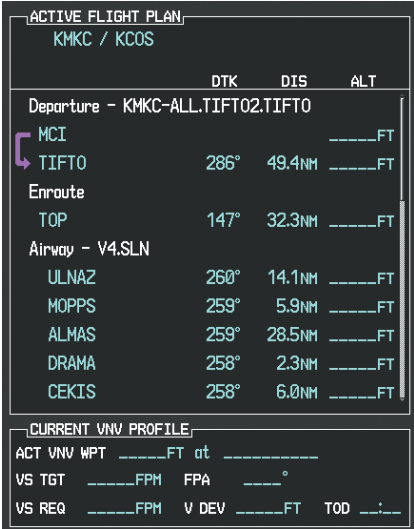

Figure 5-113 V4 is Loaded in the Flight Plan
I) V4 is now loaded into the flight plan as shown in Figure 5-113.